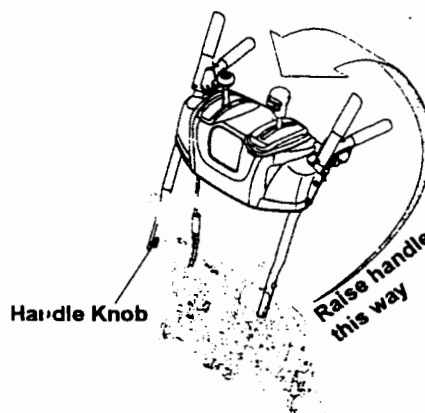

Figure 1
1. Raise the upper handle assembly in the direction shown in Figure 1. Align the upper handles with the lower handle.
2. Tighten two handle knobs firmly to secure the upper handle to the lower handles. See Figure 1.